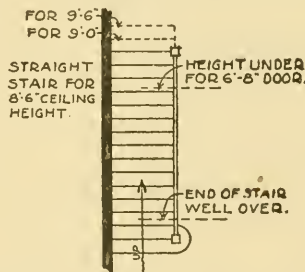

Fig. 59. A Simple, Straight Stair.
**Stairs.** For stair construction, see Figs. 59 to 65 inclusive. The simplest stairway is the one that has no turns in it, or the one shown in Fig. 59. As laid out, this stair is for an 8 ft. 6